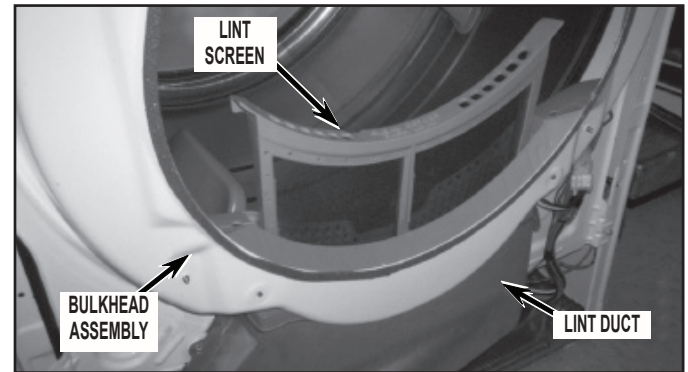

FIGURE 9
11. Remove the bulkhead assembly from dryer by first removing lint screen from dryer lint duct. See *Figure 9*.